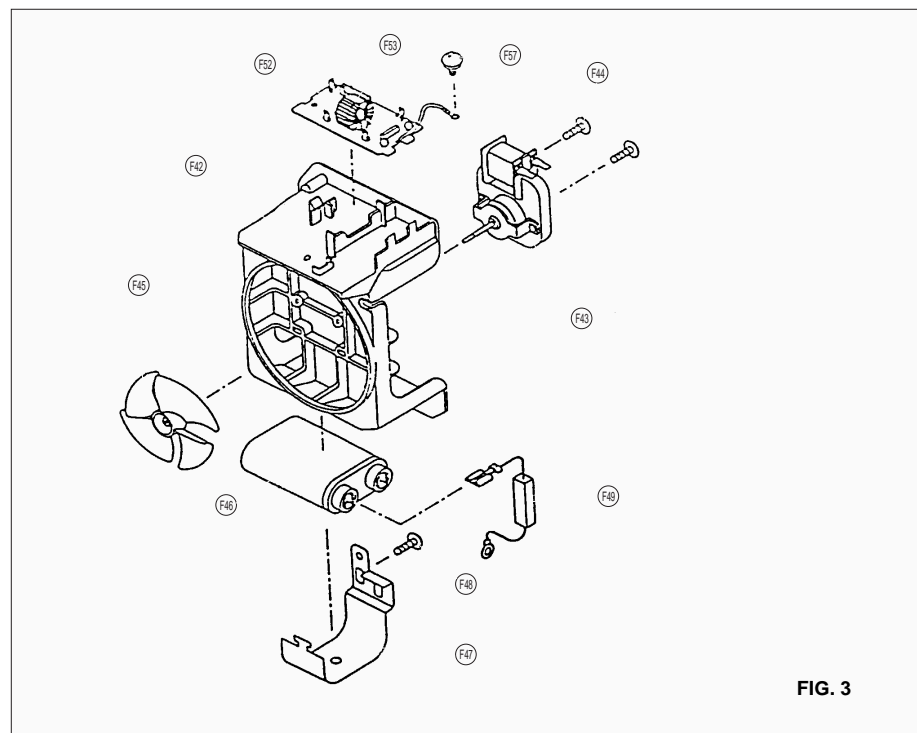

FIG. 3
2. To remove parts of guide wind assembly (Refer to Fig.3)